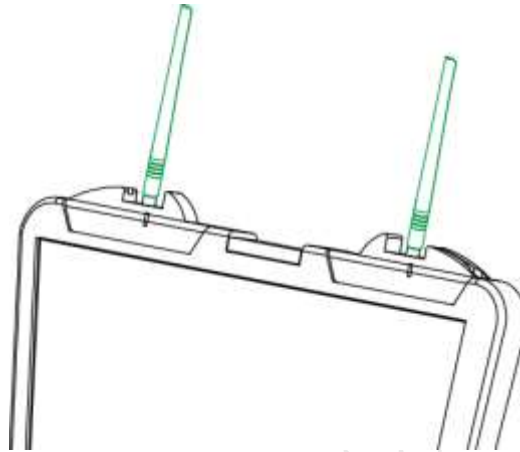

Figure 3-19
Step 1 Twist the relay antennas into the ports of ground station, and adjust them to vertical position, as shown in Figure 3-19.